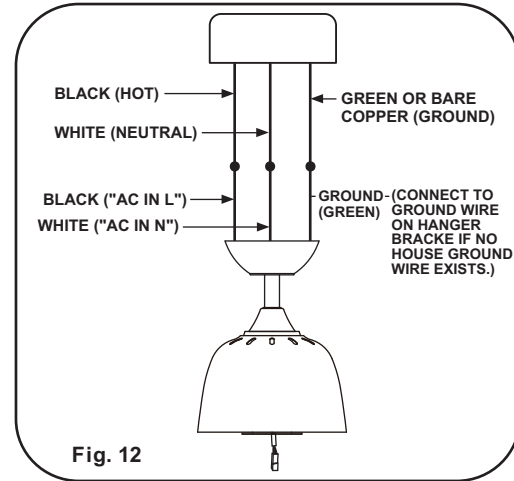

**Fig. 11**
**NOTE:** The Aire Control® System for this DC motor fans is equipped with a learning frequency function which has 32 code combinations to prevent potential interference from other remote units. The frequency on your Receiver and Transmitter units have been preset at the factory. (Fig. 11) No frequency change is necessary, should you desire to install another Minka Aire DC motor fan within the same home or area with a separate frequency code please see the "frequency interference" troubleshooting section of this instruction manual to learn how to change the frequency.